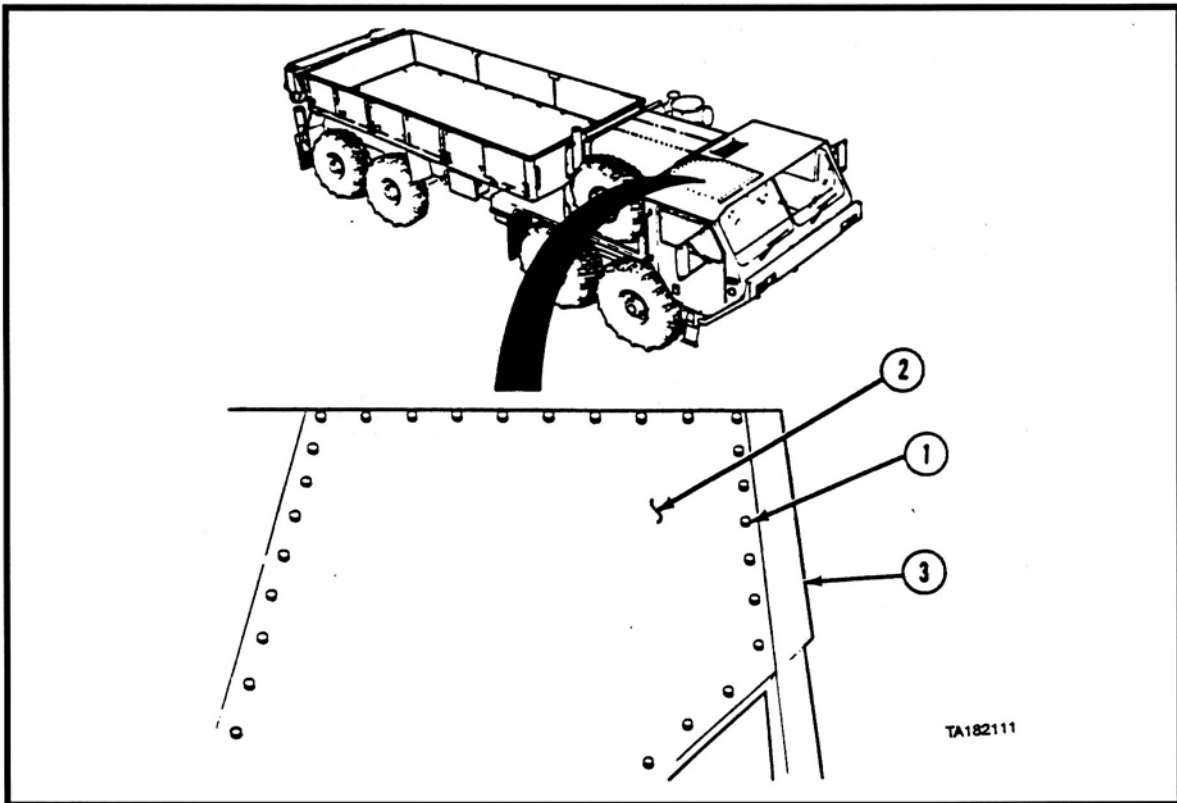

Figure 14. Remove the Passenger-Side Roof Panel (Machine-Gun Mount) Attachment Bolts.
- 1. Remove the 34 bolts (Item 1 in Figure 14) that secure the Passenger-Side Roof Panel to the HEMTT roof and remove the Passenger-Side Roof Panel.